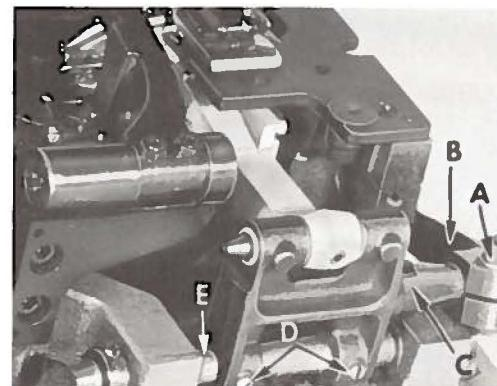

Fig. 7
The feed dog should be set for maximum travel and equal clearance on all sides in the throat plate. NOTE: See "CHANGING STITCH LENGTH". With maximum feed travel set, it may be necessary to centralize feed dog motion to obtain equal clearance in the front and rear of throat plate. If required, loosen nut (A, Fig. 7) which clamps the feed rocker arm (B) to the feed rocker (C) and move the feed rocker forward or rearward as needed and retighten nut. Equal side clearance can be obtained by loosening screws (D) which hold the feed rocker (C) onto the feed rocker shaft (E), move the feed rocker to desired position and retighten screws. Make sure the feed rocker arm (B) does not bind after making this adjustment.